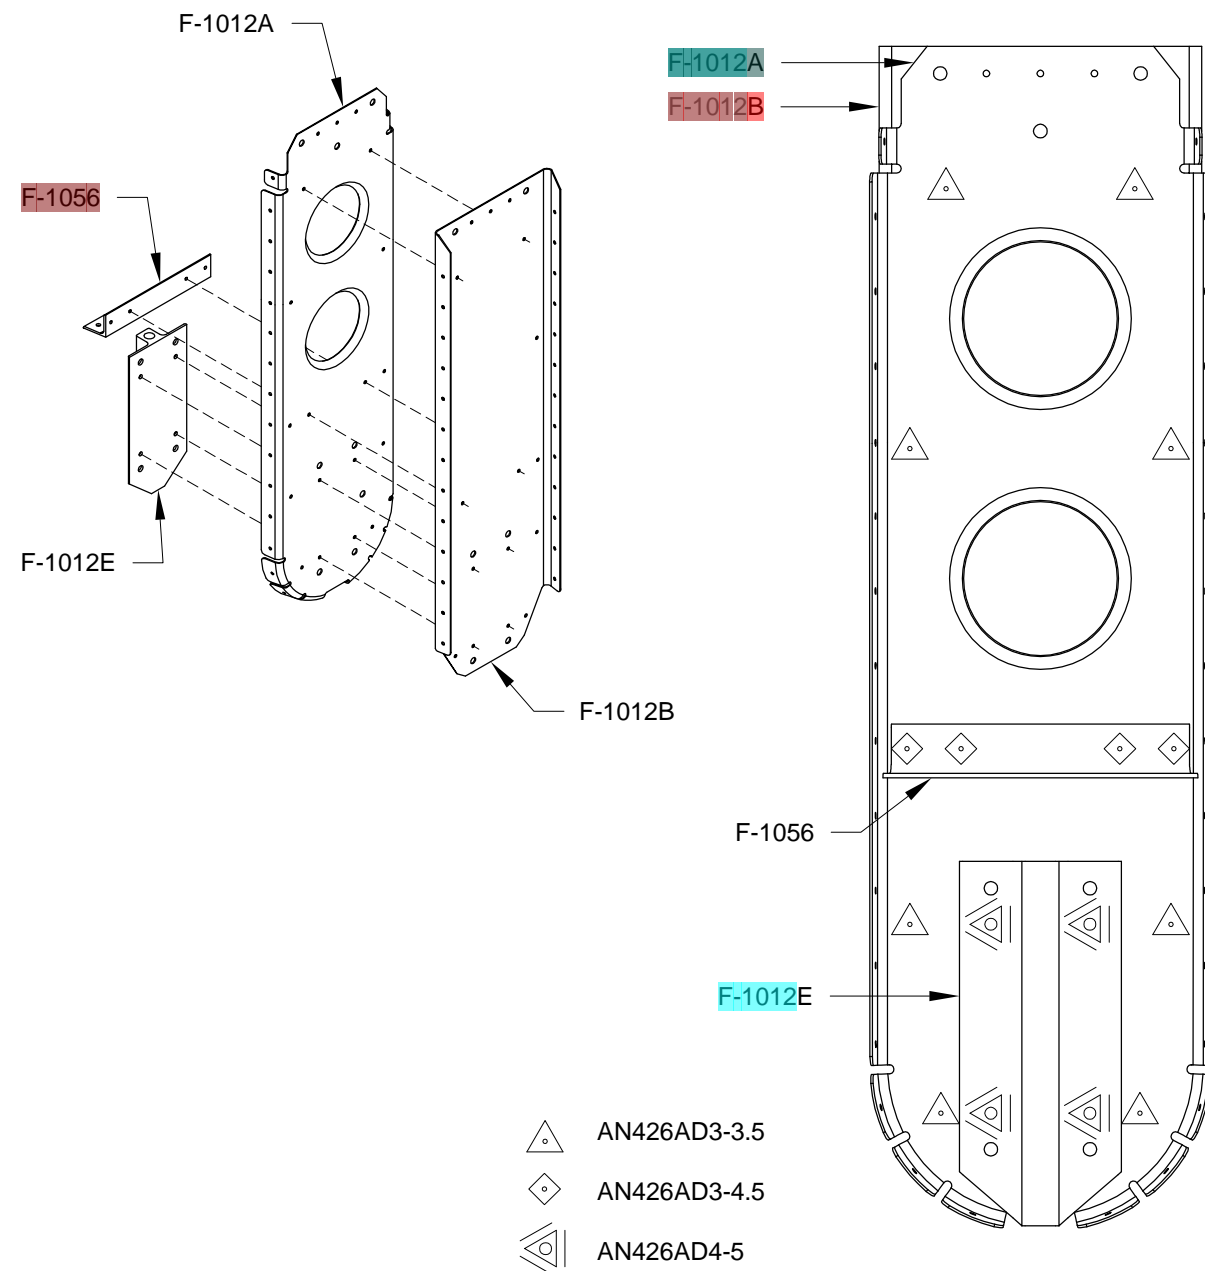

FIGURE 1: RIVETING THE F-1012 BULKHEAD AND PARTS
Step 1: Rivet the F-1012A & B Bulkheads, the F-1056 Rudder Stop Brace, and the F-1012E Tie Down Bar using the rivets called out in Figure 1.